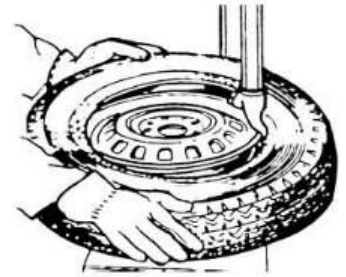

Figure 7
6. Repeat the above operation for mounting the tyre up bead (figure 7).